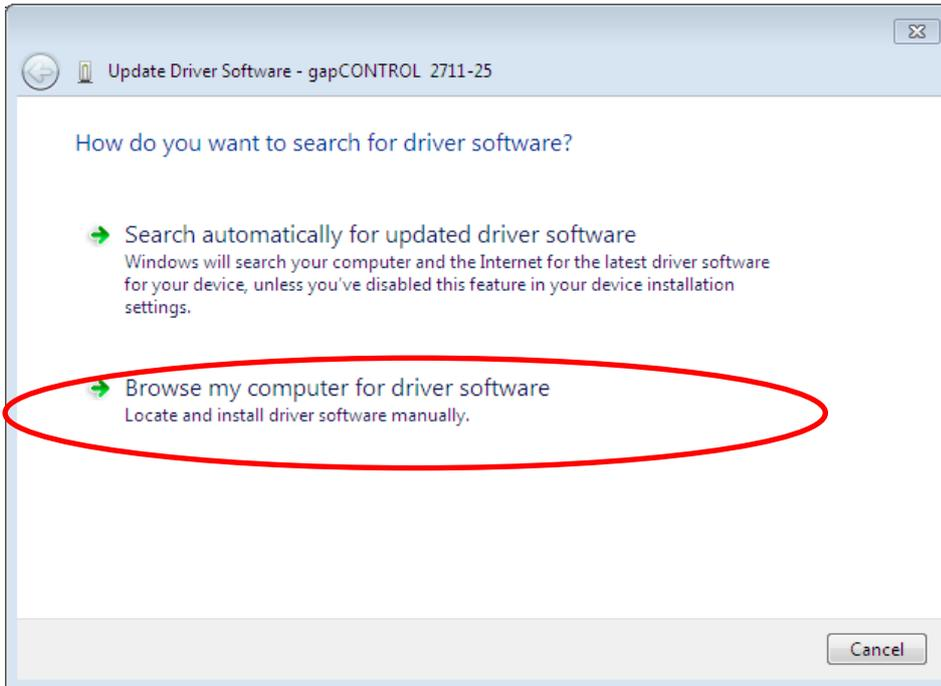

Fig. 8.9: Windows 7 manual driver installation - step 1
- Select "Browse my computer for driver software" (see Fig. 8.9).